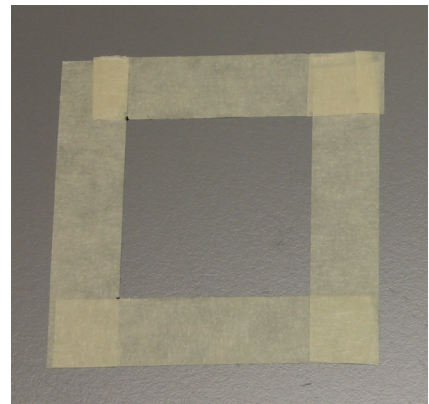

Fig. 1
3. Use masking tape to mark the borders of the selected area as shown in Fig. 1.